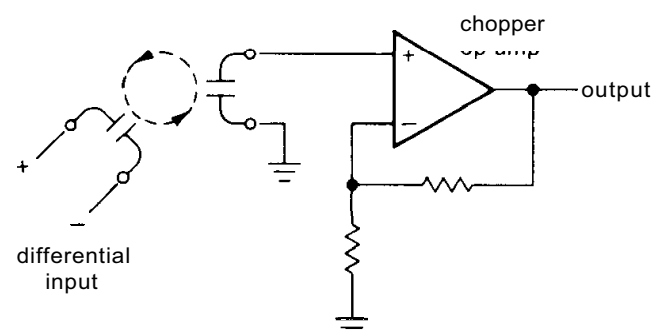

Figure 7.23. ICL7605 flying-capacitor differential amplifier with high CMRR.
□ **Instrumentation amplifier.** Another "chopper" technique in use is the so-called "commutating auto-zeroing" (or CAZ) amplifier, originated by Intersil. In this technique, typified by the **ICL7605** flying-capacitor instrumentation amplifier, MOSFET switches enable you to store the differential input signal across a capacitor, then amplify it with a single-ended chopper-stabilized amplifier (Fig. 7.23). You get charge-coupled spikes at the clock rate, just as with the standard auto-zeroing amplifier, which puts the same sort of limitations on the CAZ technique as we saw earlier. Although we raved about CAZ amplifiers in our first edition ("...stands a good chance of revolutionizing precision op-amp and instrumentation amplifier technology"), they've been finessed by the better auto-zeroing technique in which the signal always passes through a single amplifier.